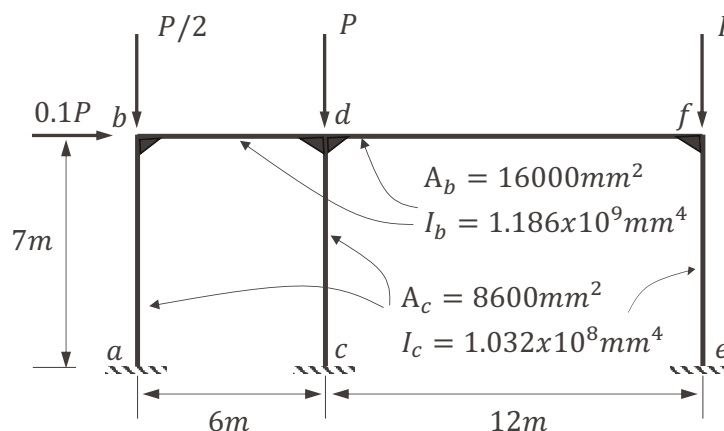

Figure 1. Planar frame
1. The critical load, P_{cr} and the buckled shape of the frame shown in Figure 1.